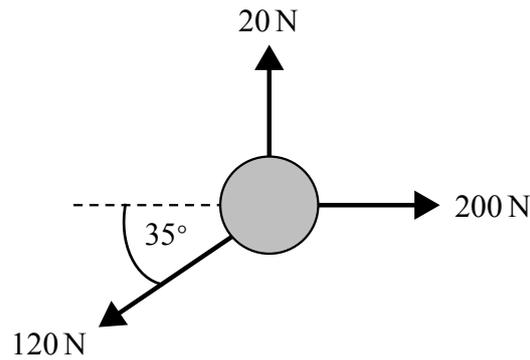

Fig. 4
- 3 (a) A particle is subjected to three co-planar, concurrent forces, as shown in Fig. 4.
- (ii) The particle has a mass of 3 kg, and is acted upon by the forces shown in Fig. 4 for a period of 8 seconds. The initial speed of the particle is 4 m s^{-1} in the same direction as the resultant force. Calculate the distance travelled by the particle during the 8 seconds period.